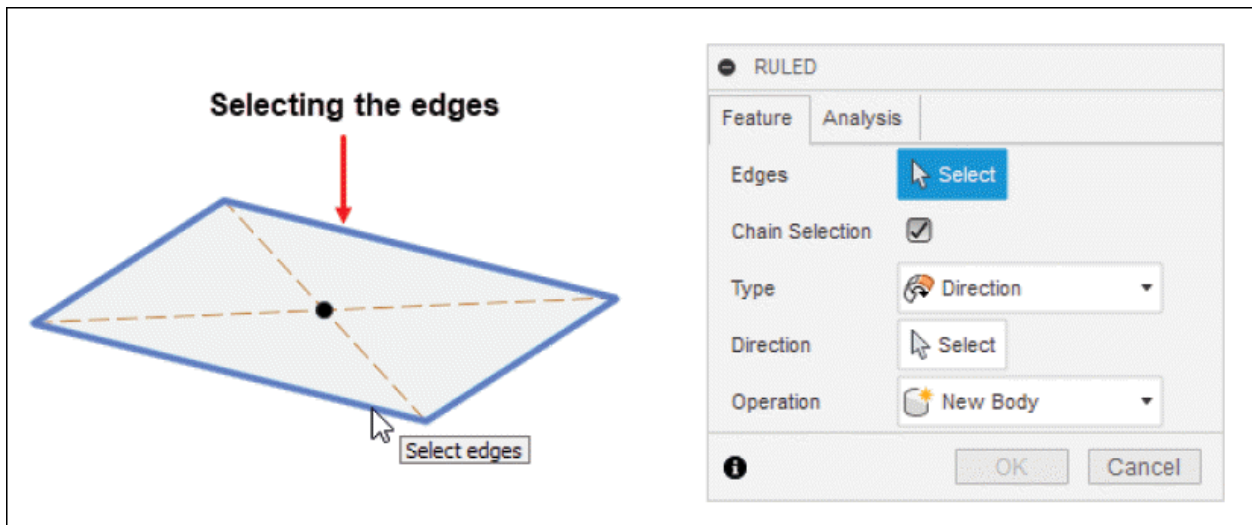
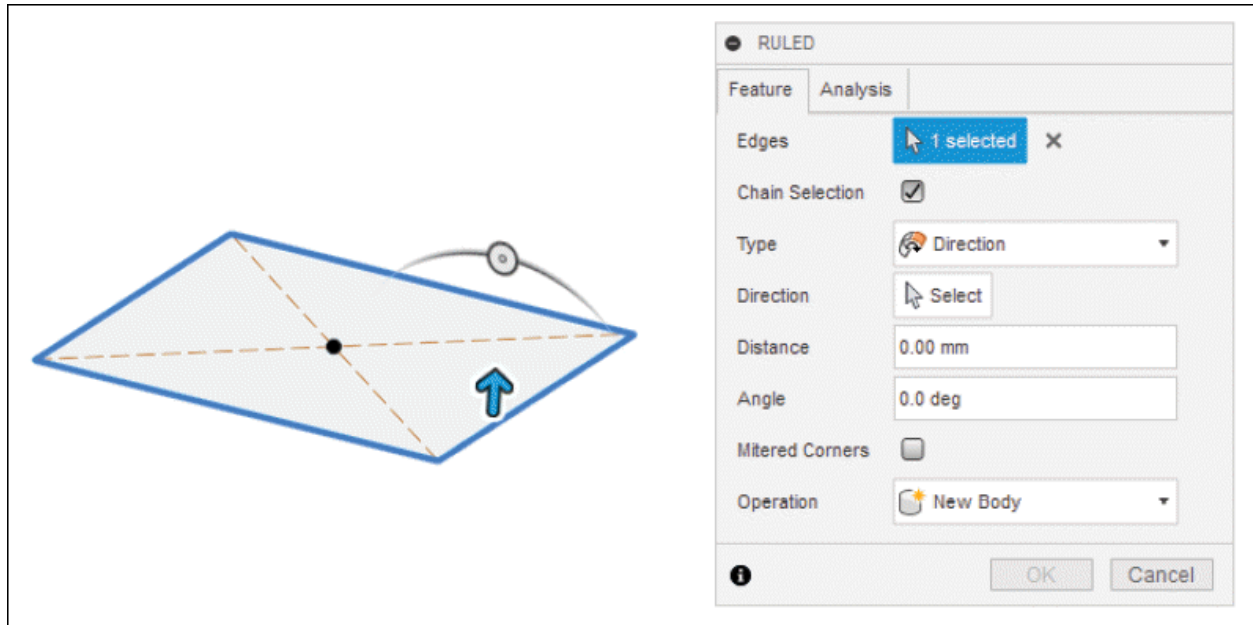

Figure-11. Selecting the edges
Figure-12. Updated RULED dialog box
- The **Edges** selection button of **Feature** tab is active by default. Select edges on a solid body, surface body, or sketch to extend the ruled surface from; refer to Figure-11. The updated **RULED** dialog box will be displayed; refer to Figure-12.